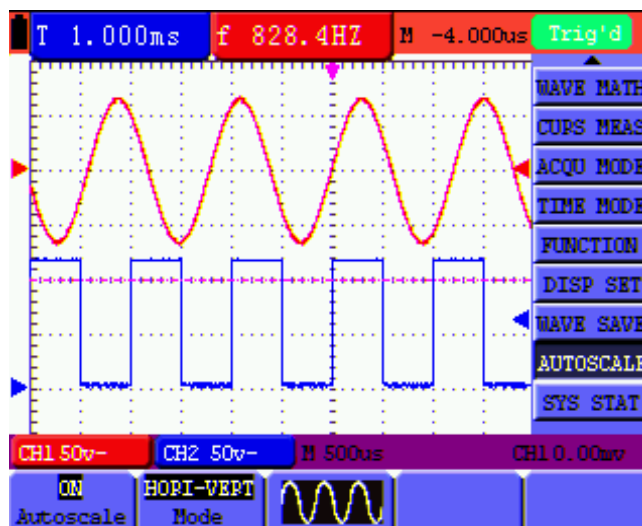

Figure 57: Autoscale Horizontal- Vertical multi-period waveforms
6. Press **F3** and  displays on the screen as figure 57: